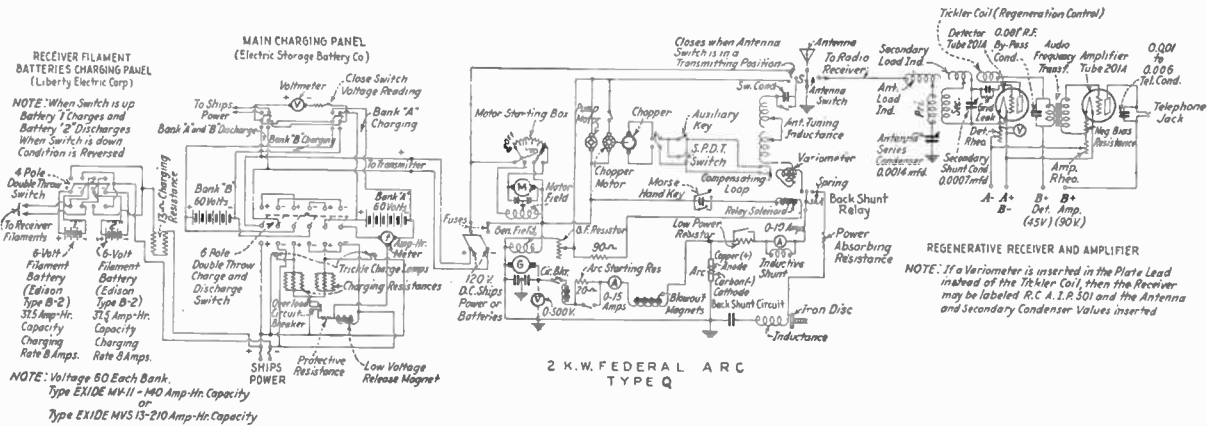

FIG. 13A.
*Ans.* Figure 13A illustrates the diagram of a commercial-arc installation.